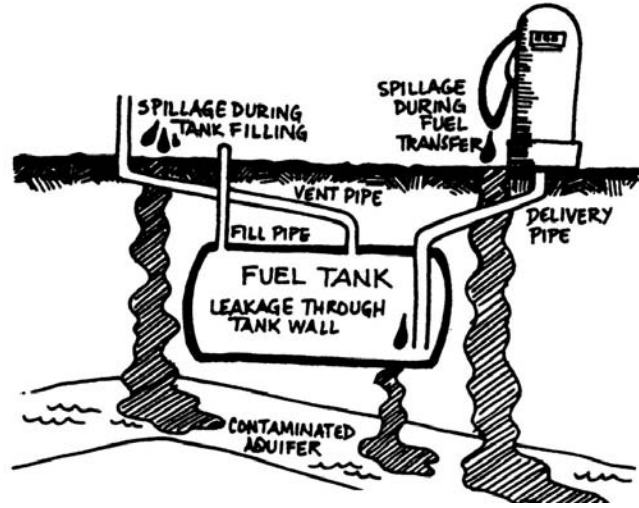

Figure 2: Contamination of groundwater due to improper fuel storage and transfer.
**Environmental changes.** Your senses—sight, smell and taste—are important for leak detection. Is there an unexplained oil-like substance on lakes or streams? Is nearby soil stained with petroleum due to spillage (Figure 2)? Is there a noticeable change in the amount of water in your well or in the water table? Are there any unusual odors or tastes in your drinking water? Have you seen an area of dead plants or an area where plants don't grow near your petroleum storage? Normally you can see leaks from an aboveground tank, but you should be aware of leaks in areas you cannot easily see, such as beneath the tank.